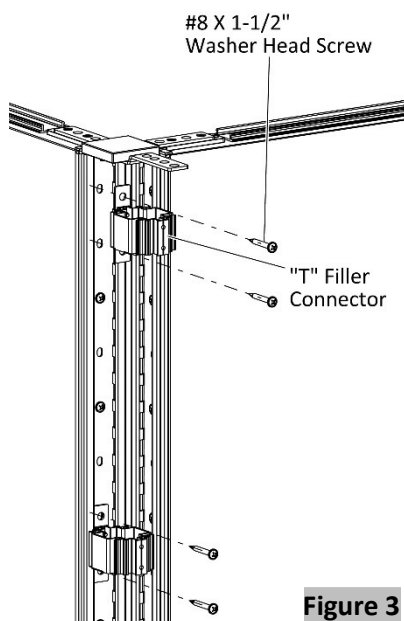

Figure 3
5. Position "T" filler connector at desired location, (Figure 3).